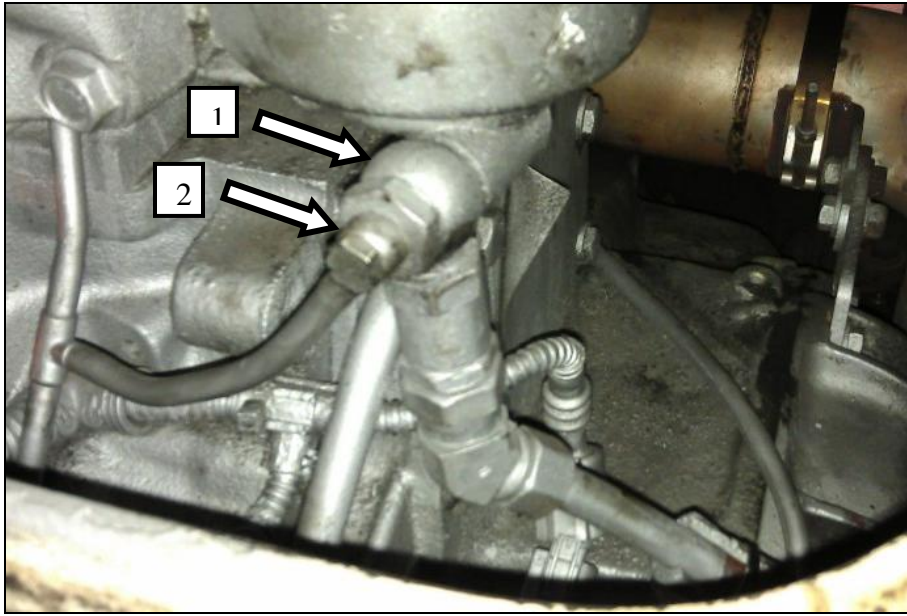

Figure 8 Installing Fuel Return Line
58. Install the spill line (2) to the open end banjo on the fuel return line using seal part number N007603008103; torque to 7 N·m (5 lb·ft). See Figure 8.